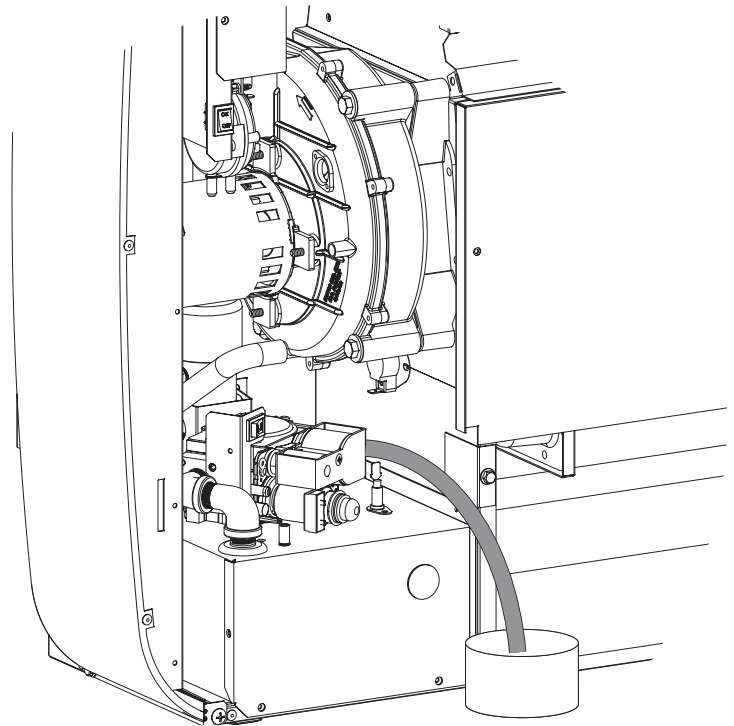

Figure 2
4. If wall furnace has been installed and operated, the condensate trap must be drained. Disconnect the clear hose from the front inducer tap and use to drain the condensate from the tap into a cup. Replace the line when done. **See Figure 2.**